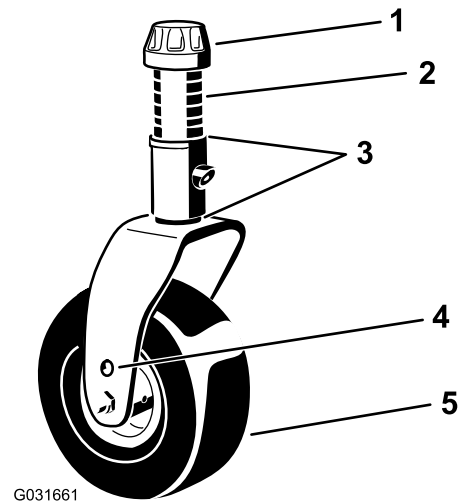
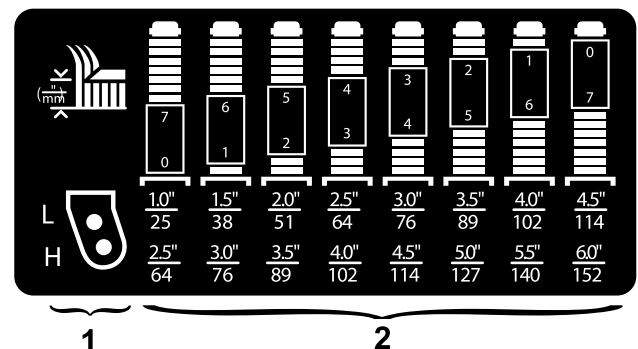

Figure 8
Figure 9
Position the castor-wheel axles in the same holes in both castor forks. Refer to Figure 8 and Figure 9 to determine the correct holes for the setting.
1. Remove the tensioning cap from the spindle shaft (Figure 8) and slide the spindle out of the castor arm. Put the 2 shims onto the spindle shaft as they were originally installed. These shims are required to achieve a level across the entire width of the cutting units.
2. Slide the appropriate number of spacers onto the spindle shaft to get the desired height of cut (Figure 8).
Refer to Figure 9 to determine the combinations of spacers for your desired height-of-cut setting.